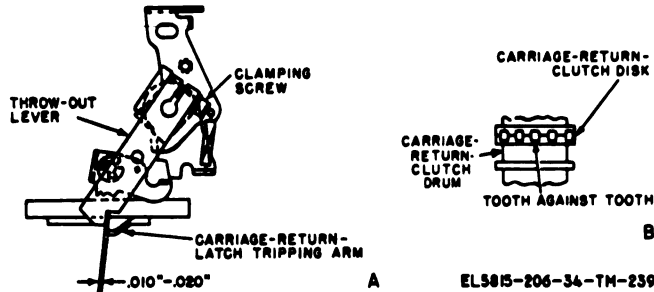

Figure 3-167. Throw-out lever adjustment (TT-4B/TG, TT-4C/TG, TT-336/TG, TT-537/G, TT-698A/TG, and TT-698B/TG ).
**c. Adjustment.** Loosen the clamping screw in the throw-out lever (fig. 3-167). Position the decelerating cam and the carriage-feed clutch (fig. 3-154). Loosen the two clamping screws (B, fig. 3-155) and position the carriage-return latch-tripping arm flush with the carriage-return latch when the latch is flush with the carriage-return clutch-actuating lever (A, fig. 3-155). Tighten one of the clamping screws and recheck the requirement (a above). If the carriage-return latch is tripped too soon, position the latch-tripping arm clockwise. If the latch is tripped too late, position the latch-tripping arm coun-
**a. Requirement.** There should be 0.010- to 0.020-inch clearance between the throw-out lever and the carriage-return latch-tripping arm (A, fig. 3-167) when the carriage is in the left-hand margin position.
meets against tooth) (B, fig. 3-167). If the clutch teeth start to engage, hold the carriage-return-clutch drum out of engagement; continue turning the motor until the teeth are in line; and release the clutch drum. Use a feeler gage to check the requirement (a above).